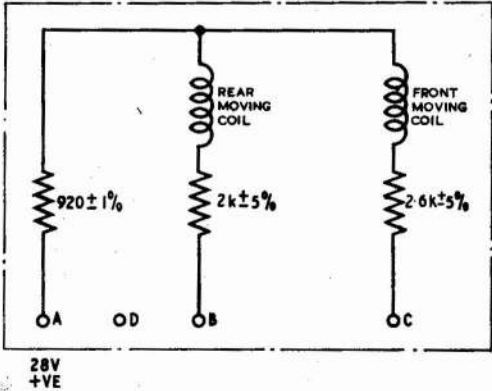

Fig. 2. Circuit diagram
2. The circuit diagram is shown in fig. 2 and connections to the indicator are made via three unified threaded terminal screws at the rear of the instrument.